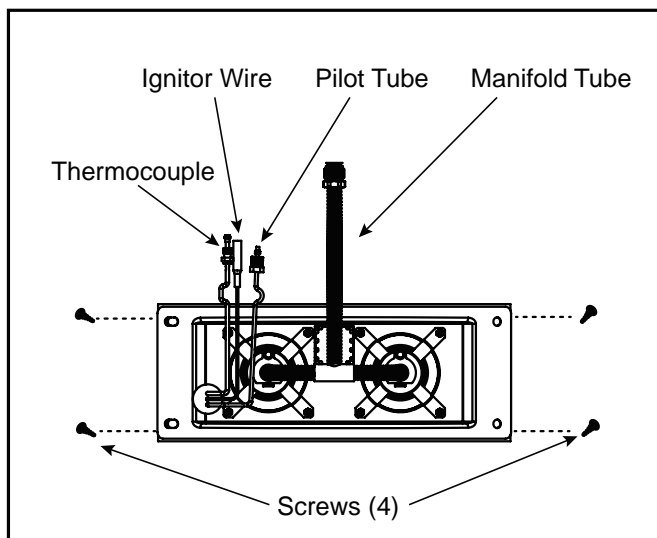

FIGURE 21
4. Remove the four screws securing the burner door assembly to the combustion chamber (Figure 21).
5. Disconnect the thermocouple (right-hand thread), pilot tube, the ignitor wire from the ignitor button, and manifold tube at the thermostat (Figure 21).
4. Disconnect the igniter wire from the igniter. Note: There are two types of igniters. If you have the round igniter, first remove the igniter from the bracket by depressing front and rear holding tabs and lift. Next remove igniter bracket from the gas valve. If you have the square igniter slide the igniter bracket backwards away from the gas valve to remove it. Disconnect the thermocouple (right-hand threads), pilot tube and manifold tube at the gas control valve/thermostat (Figure 21).